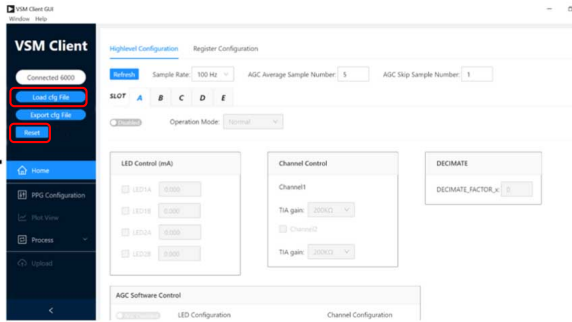
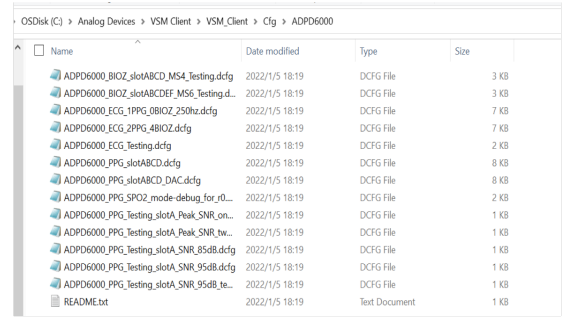

Figure 28. Configuration Interface
Figure 30. Configuration File Folder
1. Click **Load cfg File** in the configuration interface of VSM Client to load a basic configuration file (see Figure 28). To export the current configuration file, click **Export cfg File** to save the script in the configuration file folder (see Figure 30). To change the loaded .dcfg file, click **Reset** before continuing.
The configuration files in the configuration file folder may differ from those shown in Figure 30.